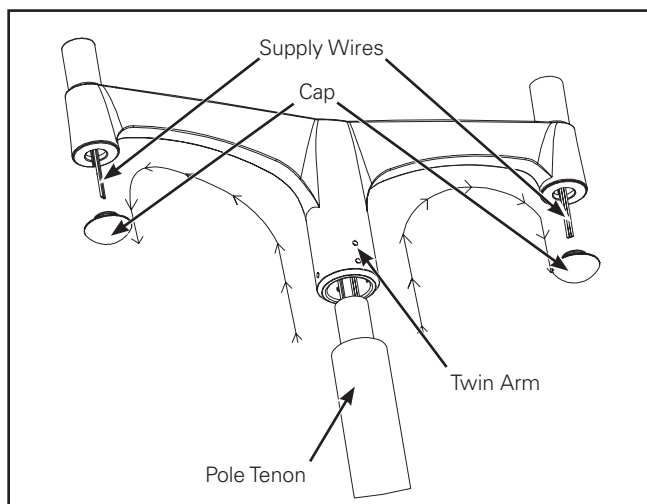

Figure 10.
2. Pull the supply wires from post's tenon and split supply connections into two with supply leads going in each side of the arm. (Figure 10.)